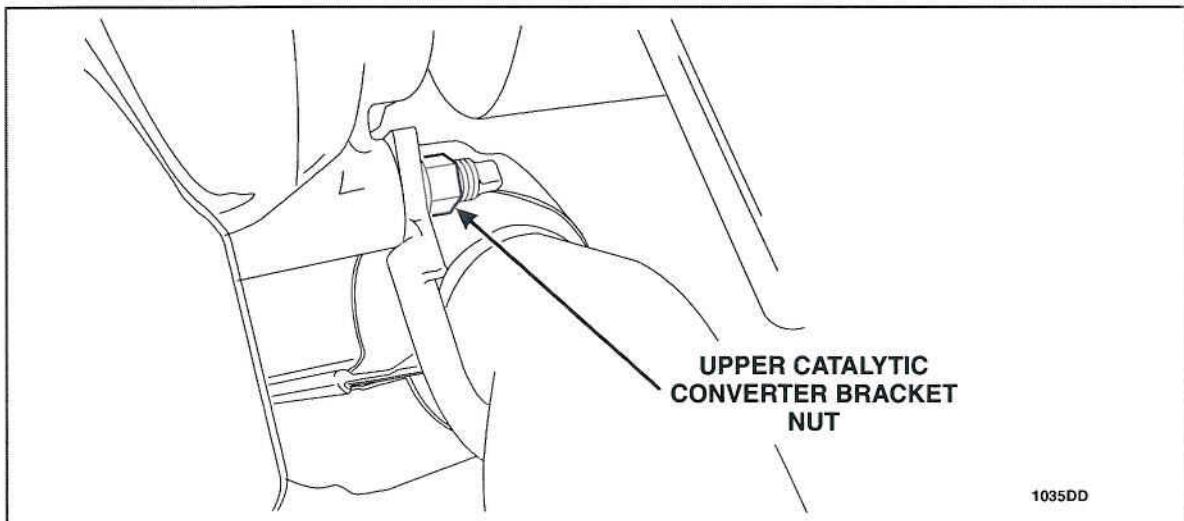

FIGURE 13
29. Remove the upper catalytic converter bracket nut. Figure 13.